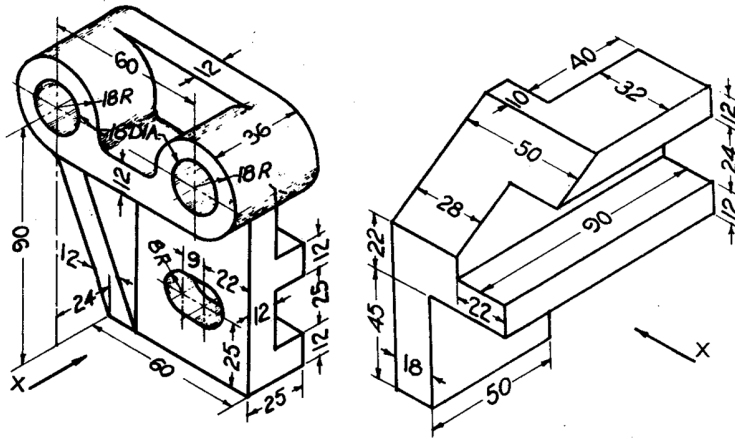

FIG. 18-42
(20) Fig. 18-42: (i) Front view. (ii) Side view from the right. (iii) Top view.